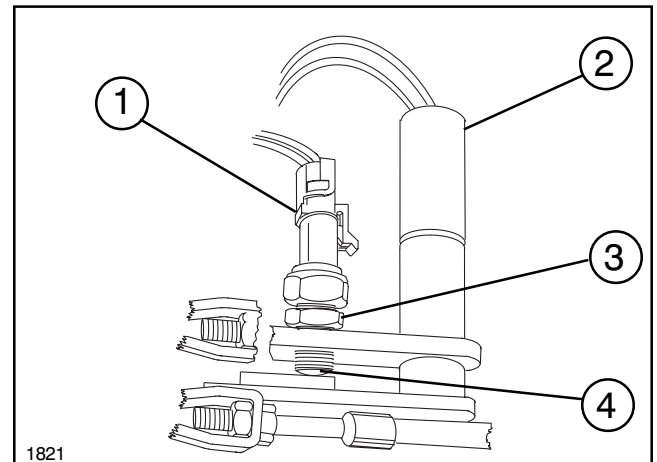

FIG. 3
4. Loosen jam nut on Neutral Interlock Switch. (See Fig. 3, page 31)